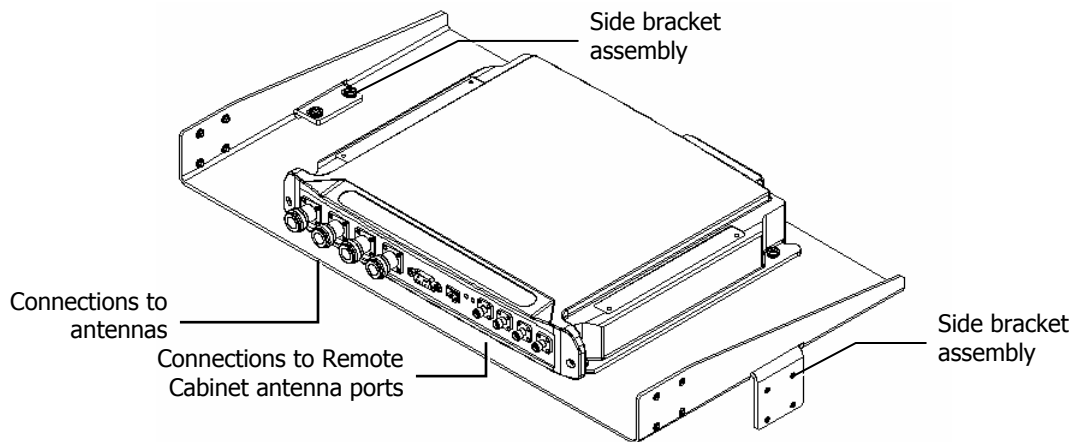

Figure 4-5. MA-860 Rack Installation
1. Assemble two side brackets to the plate sides as illustrated in Figure 4-5.
1. Assemble the side brackets as illustrated in Figure 4-5.